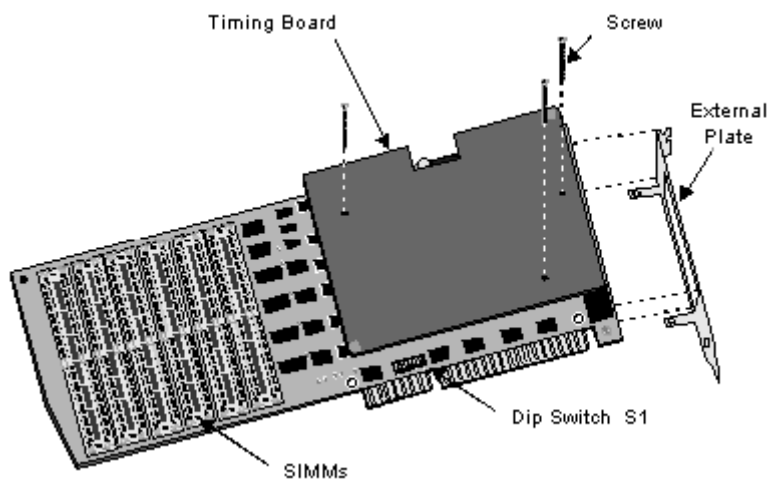
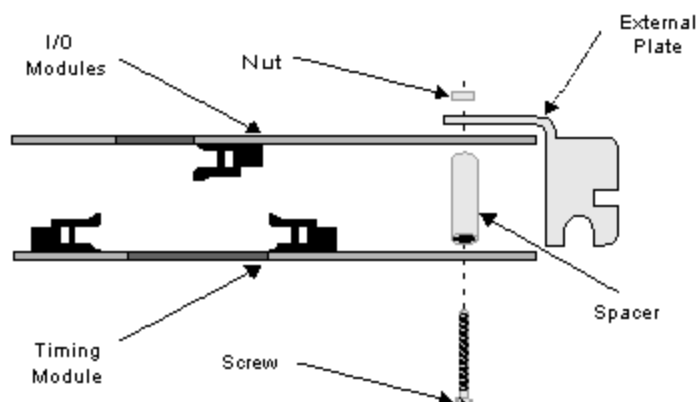

Figure 3-7: Timing Control Module Installation
Figure 3-8: Timing Control Module Installation – Side View
3. Insert the plastic screws in the Timing Control Module (see Figure 3-7) and install the spacers (see Figure 3-8).
5. Place the nuts on the screws to connect both modules (see Figure 3-8).